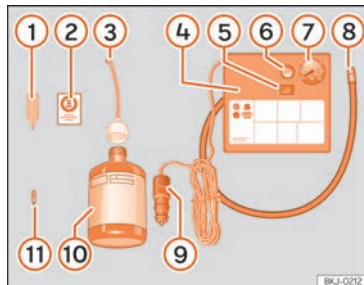

Fig. 31 Standard representation: anti-puncture kit contents.
» **Fig. 31:**
- Unscrew the tyre valve cap and insert. Use the »» Fig. 31 ① tool to remove the insert. Place it on a clean surface.
- Shake the tyre sealant bottle vigorously »» Fig. 31 ⑩.
- Screw the inflator tube »» Fig. 31 ③ into the sealant bottle. The bottle's seal will break automatically.
- Remove the lid from the filling tube »» Fig. 31 ③ and screw the open end of the tube into the tyre valve.
- Place the insert back into the tyre valve using the tool »» Fig. 31 ①.
- Screw the compressor tyre inflator tube »» Fig. 31 ⑧ into the tyre valve.
- Check that the air bleed screw is closed »» Fig. 31 ⑥.
- Insert the connector »» Fig. 31 ⑨ into the vehicle's 12-volt socket »» page 137.
- Turn the air compressor on with the ON/OFF switch »» Fig. 31 ⑤.
- Attach the sticker »» Fig. 31 ② to the instrument cluster, within the driver's visual field.
Screw the inflator tube »» Fig. 31 ⑤ again and check the pressure on the gauge ⑥.